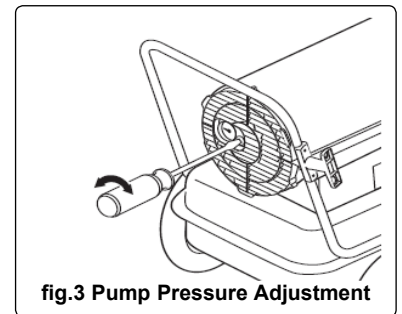

fig.3 Pump Pressure Adjustment
- 5.1.5 The pump pressure should be +/- 10% of the pressure stated in the specification table above, if the unit is running outside of this tolerance, adjust the pressure as shown in fig.3.
| Heater fires, but main PCB shuts heater off after a short period of time. Lamp is flickering and LED display shows "E1".                                  | 1. Incorrect pump pressure.2. Dirty input, output or lint filter.3. Dirty Fuel Filter.4. Nozzle is dirty.5. Photocell lens is dirty.6. Photocell not installed properly.7. Photocell Defective.8. Improper electrical connection between Main PCB and Photocell.9. Ambient temperature too low for fuel type, | 1. Adjust pump pressure (see fig.3).2. Clean/replace Air Filter.3. Clean/replace Fuel Filter.4. Clean/replace Nozzle.5. Clean/replace Photocell.6. Adjust Photocell position.7. Replace Photocell.8. Check wiring connections (See Wiring Diagram).9.Change fuel type.                                    |
| Heater will not operate or motor runs for a short time. Lamp flickers and LED display shows "E1".                                                         | 1. No paraffin in fuel tank.2. Incorrect pump pressure.3. Corroded Spark Plug or incorrect gap.4. Dirty Fuel Filter.5. Dirty Nozzle.6. Moisture in Fuel/Fuel Tank.7. Faulty electrical connection.8. Ignitor Wire not connected to Spark Plug.9. Defective Ignitor.                                           | 1. Fill tank with fresh paraffin.2. Adjust pump pressure (see fig.3).3. Clean/adjust/replace spark plug.4. Clean/replace Fuel Filter.5. Clean/replace Nozzle.6. Rinse out fuel tank with fresh paraffin.7. Inspect all electrical connections.8. Re-attach Ignitor Wire to Spark Plug.9. Replace Ignitor. |
| Poor Combustion.                                                                                                                                          | 1. Flames extending beyond heater.2. Low heat output.                                                                                                                                                                                                                                                                                     | 1. Decrease Pump Pressure (see fig.3).2. Increase Pump Pressure (see fig.3).                                                                                                                                                                                                                                                          |